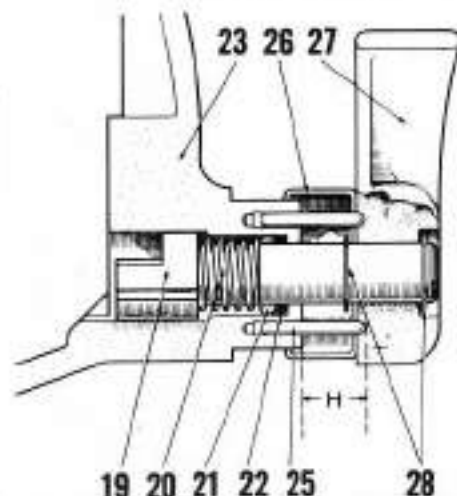

Fig. 208—Cross-sectional view of lift linkage latch located in ram cylinder cover (23). Refer also to Fig. 207.
Fig. 207—Exploded view of typical rockshaft cylinder and rockshaft assembly. Connector (1A) is used on model 1200, connector (1) on all other models. Refer to Fig. 208 for cross-sectional view of rockshaft latch assembly. No attempt should be made to remove or reposition the rockshaft lift arms. Rockshaft ram cylinder arm (14) is renewable by splitting old arm, then pressing arm from shaft. Heat new arm to expand to fit, press into position and allow to shrink fit to shaft.
Refer to Fig. 208 for cross-sectional view showing lift linkage latch assembly. During normal operation of hydraulic system, the latch (19) is withdrawn by lever (27) riding on ends of the steel pins (25). When it is desired to latch lift linkage in raised position, turn lever (27) so that pins enter recesses in lever allowing spring (20) to push latch forward to engage ram cylinder arm. Linkage can be disassembled after removing ram cylinder cover (23) by holding latch rearward against spring pressure while removing the snap rings (28). A guide screw (24—Fig. 207) engages slot in latch plunger (19) to keep it from turning. The pins (25) are actually needle bearing rollers; thus if broken, are too hard to be drilled out. Ram cylinder cover can be salvaged if pin is broken by drilling new pin holes offset slightly from the original holes.